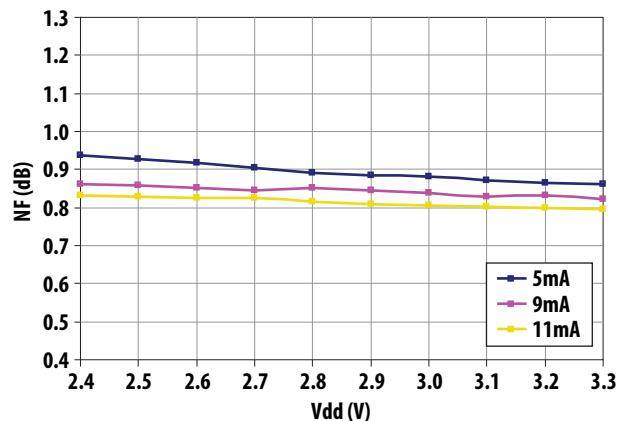

Figure 6. NF Vs Vdd Vs Idd
**Table 3. Typical performance at low operating voltages with R2 (see Figures 6 and 7) set to 0 ohms**
- 8. Measurements at 1.575GHz obtained using demo board described in Figures 6 and 7
- The demoboard of Figure 6 is Rogers® RO4350 with typical  $Dk = 3.48$  (@10GHz).
The S- and Noise Parameters are measured using the PCB described in Figures 6 and 7. The PCB material is 10 mils Rogers® RO4350. Figure 23 shows the input and output reference planes. The circuit values, with the exception of L3, are as indicated in Figure 6.